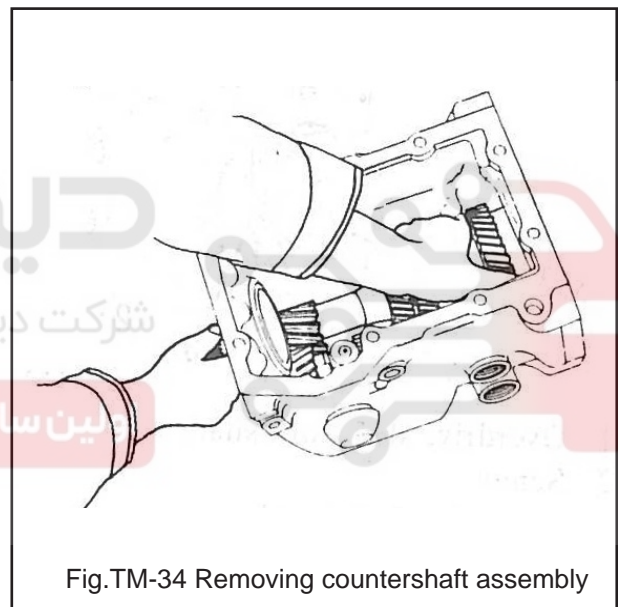

Fig.TM-34 Removing countershaft assembly
12. Take out reverse idler gear assembly, needle bearing, thrust washer and countershaft assembly. See Figure TM-34.